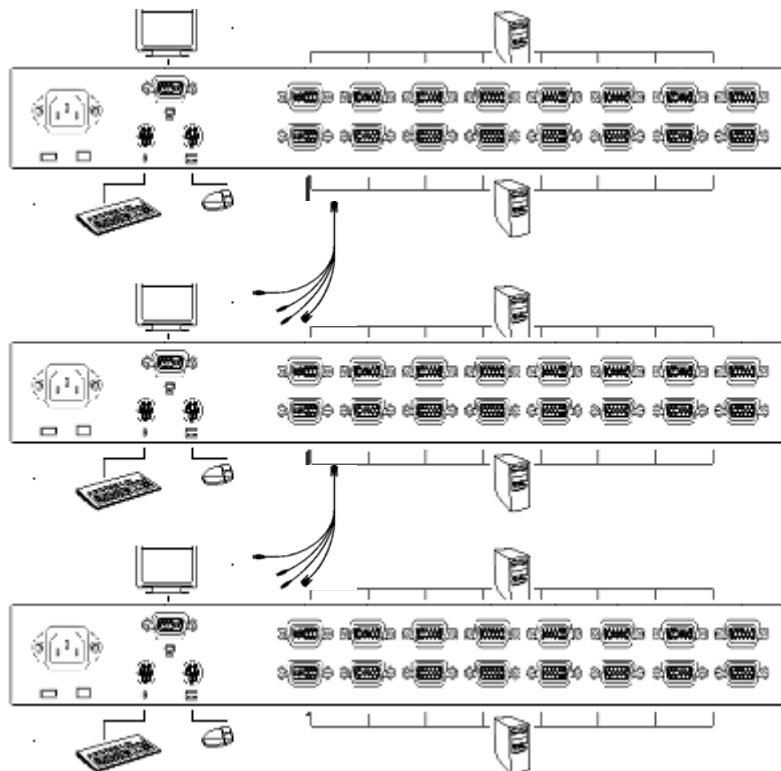

Figure 6: Cascade chaining
**Figure 6 shows you how to attach mounting brackets to the KVM Switch unit for standard 19-inch rack cabinet.**
( See Figure 6)